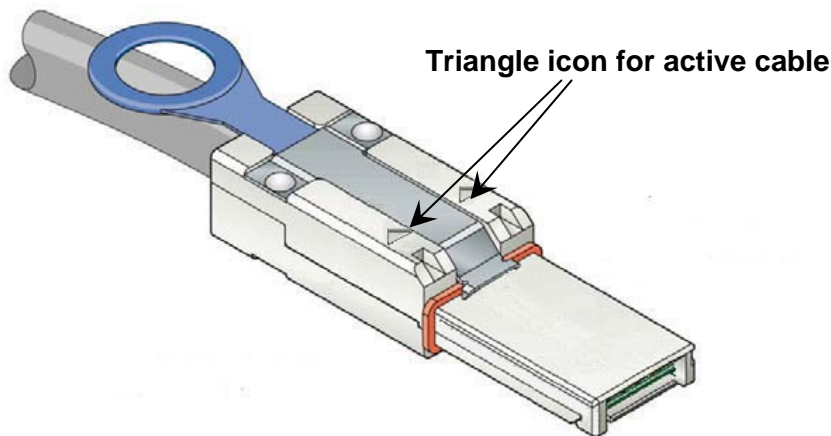

Figure 98 — Mini SAS 4x cable plug connector that attaches to an enclosure universal port
- The figure numbering in section 5.3 and onwards shall be changed so that Figure 98 becomes Figure 99, etc.
In order to ensure that active cables cannot be plugged into legacy (passive) ports, differentiating keying shall be provided by removing all the key slots from the plug connector and all the keys on the receptacle connector. In addition, two triangle icons on each side on the plug connector will be added to the plug connector to distinguish an active cable assembly (Figure 98).
Figure 98 shows an active mini SAS 4x cable plug connector that attaches to an enclosure universal port: